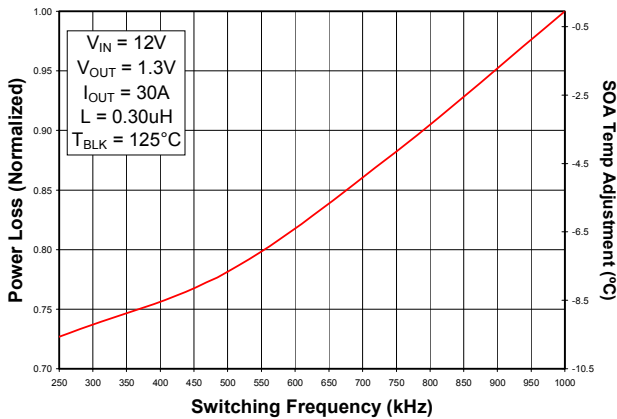

Fig. 5: Normalized Power Loss vs. Frequency
- (Fig. 5) Normalized power loss for frequency \approx 0.95
- (Fig. 5) Normalized SOA Temperature for frequency $\approx -1.8^\circ\text{C}$